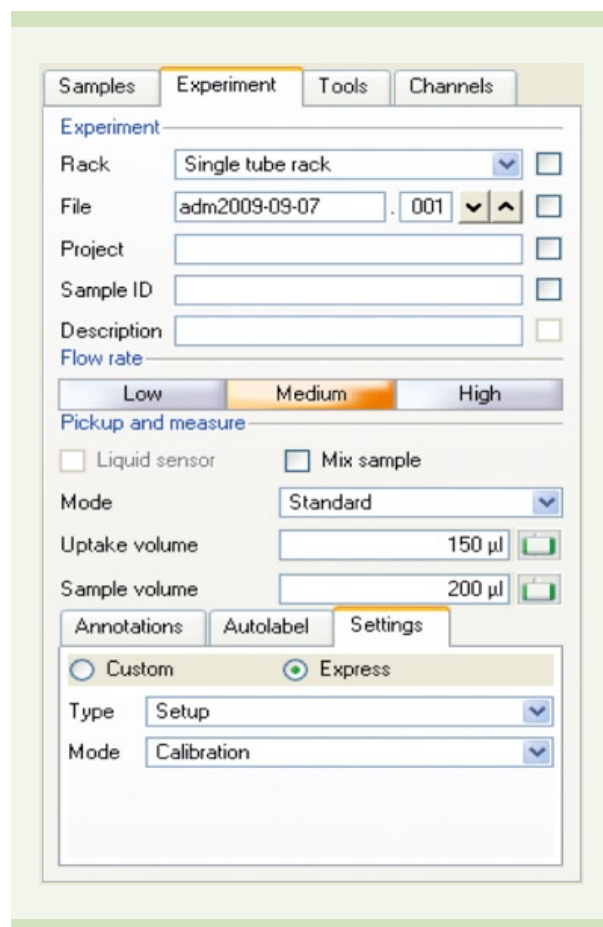

Figure 2: Experiment tab showing selection of calibration process in the settings tab
3. In custom mode, select the '**Settings**' tab within the '**Experiment**' tab (figure 2).